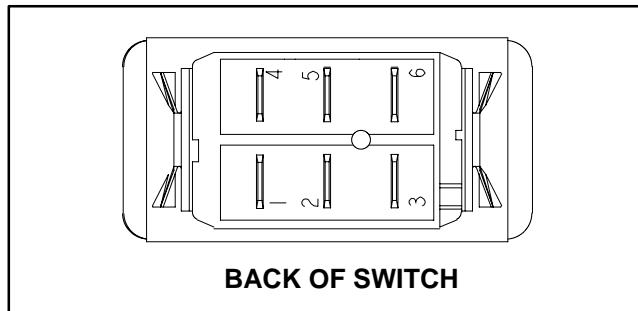

Figure 32
3. With the use of a multimeter (ohms setting), the switch functions may be tested to determine whether continuity exists between the various terminals for each position. The switch terminals are marked as shown in Figure 32. The circuitry of the headlight switch is shown in the chart below. Verify continuity between switch terminals.